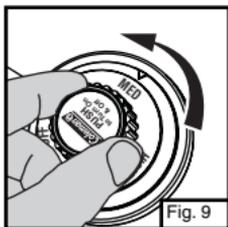

Fig. 9
- Open regulator valve and push igniter button repeatedly until burner lights. (Fig. 9 and 10)